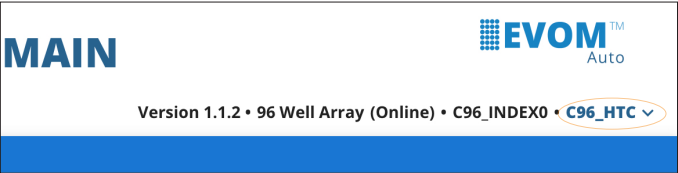
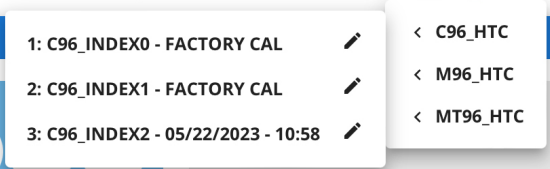

Fig. 23—Click on the brand in the upper right corner under the EVOM™ Auto logo to access the plate brand and plate profile menu.
Fig. 24—The plate brand and profile menu displays. In offline mode, you can see all the plate brand options. In online mode, only the available option displays.
1. To select the desired brand and plate profile, click on the brand name under the EVOM™ Auto logo in the upper right corner of the Main window (Fig. 23). A dropdown menu displays (Fig. 24).